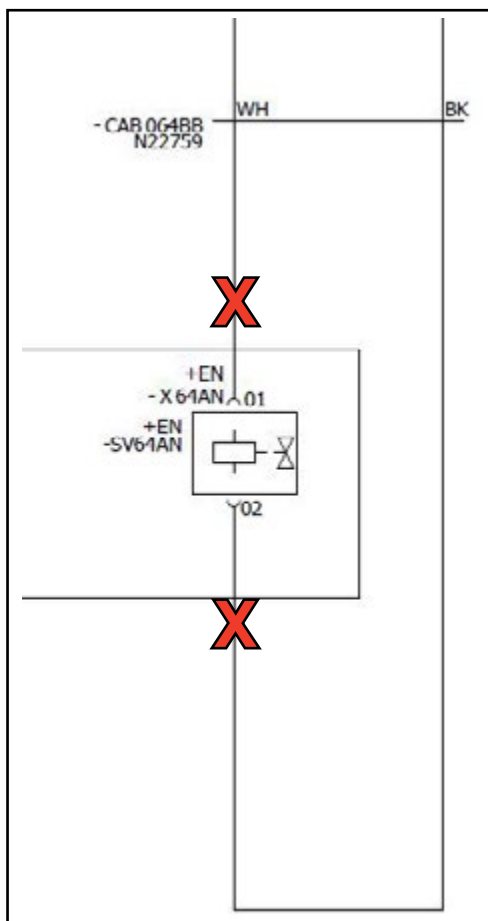

Figure 3 - Wires to be Cut and Insulated on the +EN-X64AN Connector
- 1.6. Disconnect the +EN-X64AN electrical connector and cut the two wires from the CAB064BB cable close to the connector shell. See Figure 3. Discard the connector.
- 1.7. Cut two pieces of N27548-18 heat shrink tubing and install a piece on both cut wires to insulate them properly. See Figures 3 and 4.